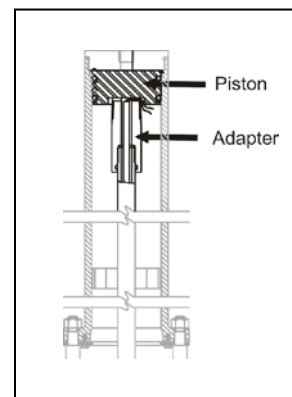

Figure 3
2.2.7 Position the cylinder on top of the tie bolts. The piston should fit over the adapter (see Figure 3).